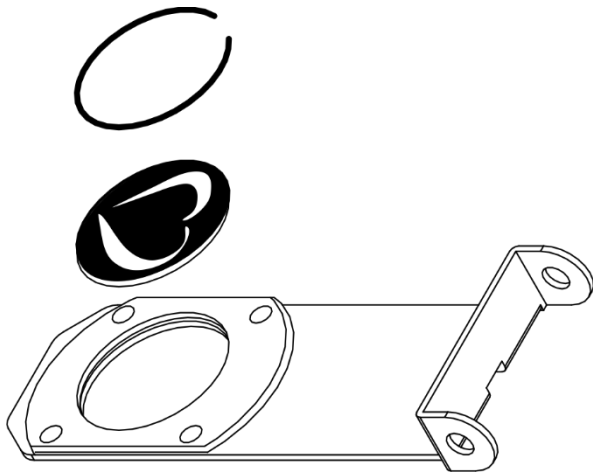

Fig. 21
- 01) Remove the retaining ring from the **gobo holder (08)** with needle-nose pliers or a similar sharp tool.
- 02) Change the metal gobo. Make sure that the painted (black) side of the gobo is facing upwards as shown in Fig. 21. When inserted back into the gobo slot, the painted (black) side should be facing the **lens (05)**.